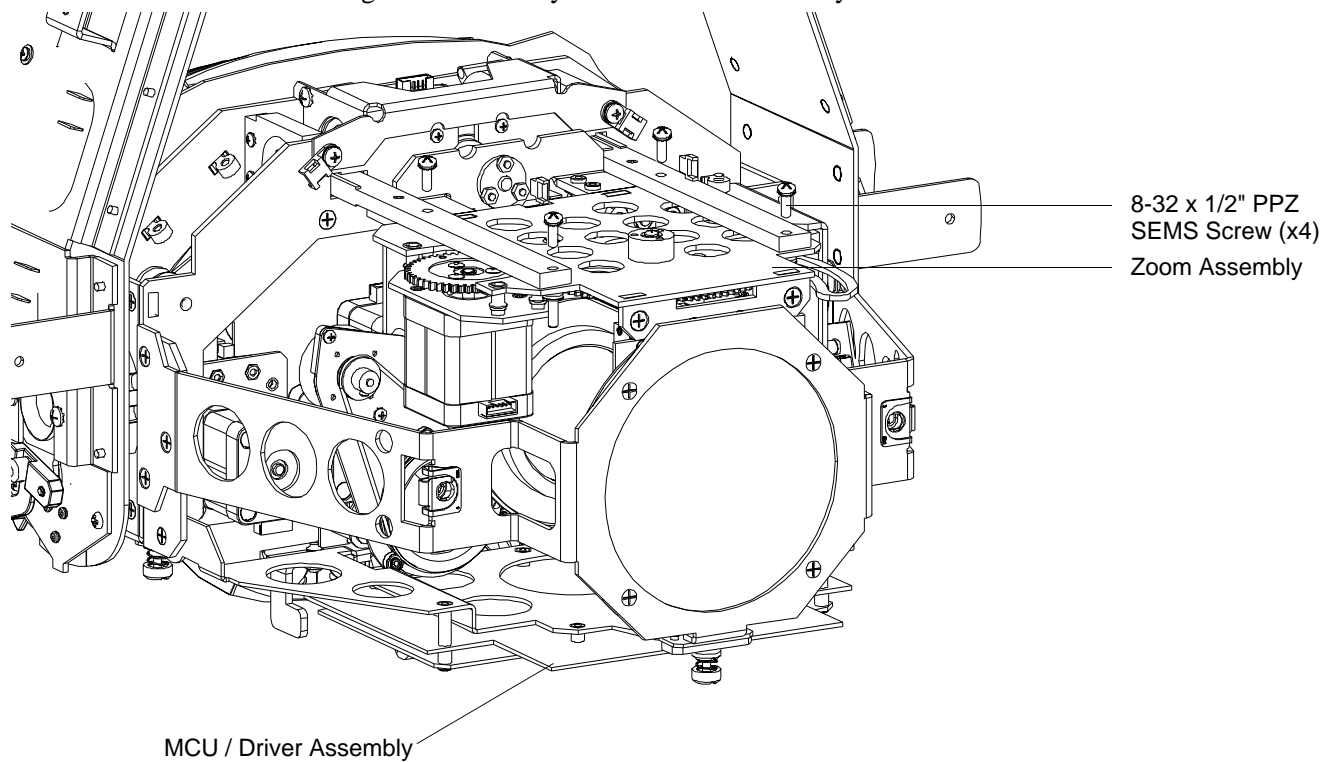

Figure 2-9: Zoom Module Assembly Removal
Step 6. At bottom of fixture, as shown in Figure 2-9, remove four 8-32 x 1/2" PPZ SEMS screws securing zoom assembly to head frame assembly.